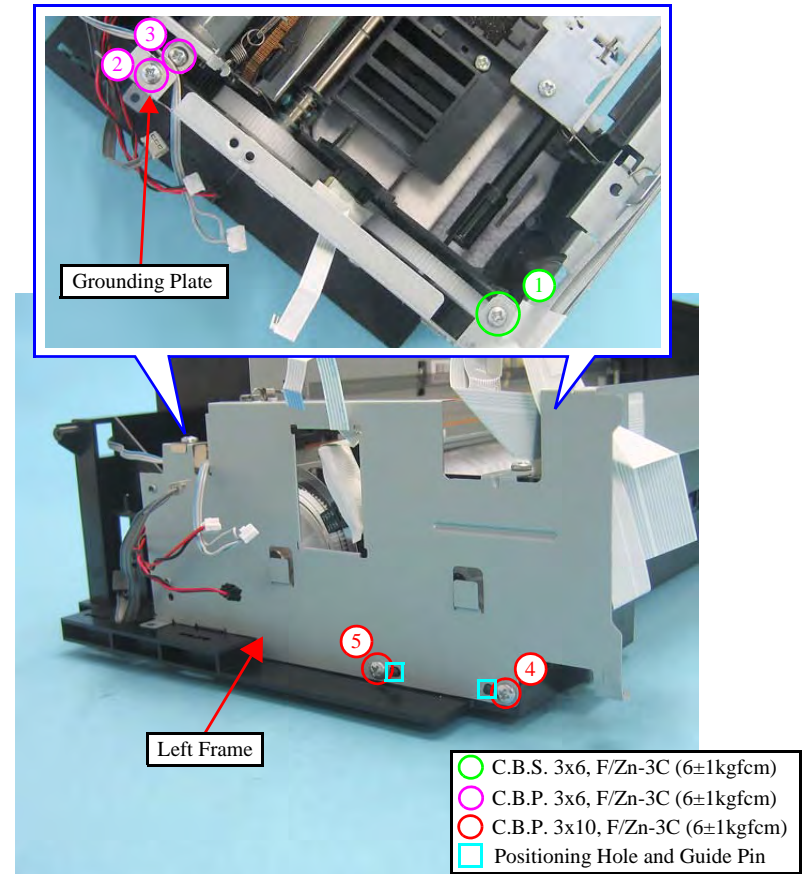

Figure 4-46. Removing the Left Frame
- When installing the Left Frame, match the guide pins (x2) of the Base Frame with their positioning holes (x2) of the Left Frame as shown in Figure 4-46.
- Tighten the screws in the order given in Figure 4-46.